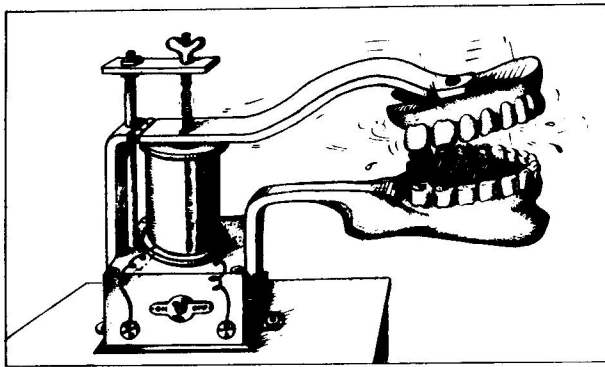

Fig. 5 Automatic Gritter Attachment
3.04 The AUTOMATIC GRITTER is a solenoid device which grits a set of matched teeth together, with venom and a little sand. This is a source of constant delight to most operators. See Fig. 5.